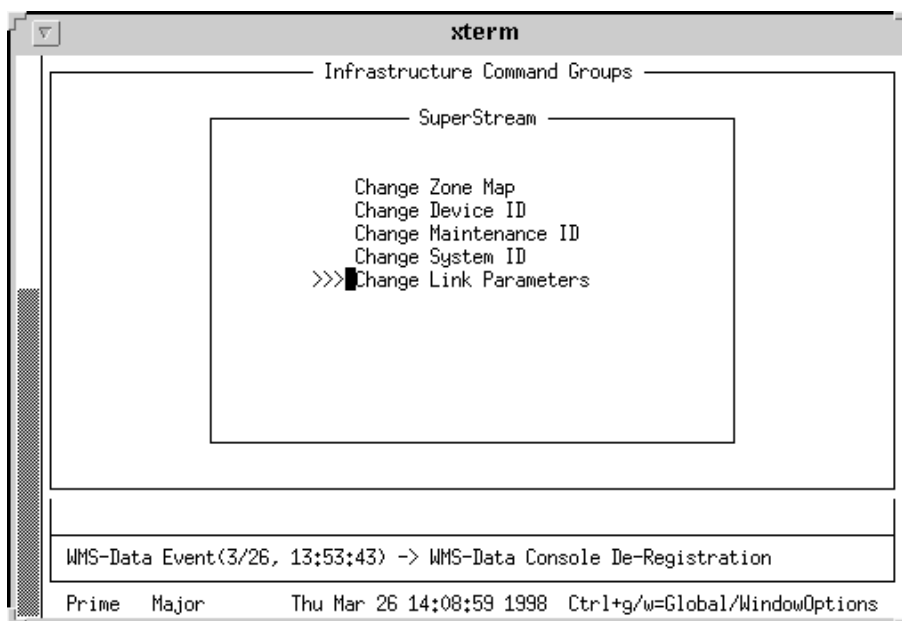

Figure 4-11: SuperStream Menu—Change Link Parameters
1. From the SuperStream menu, use the <tab> to position the cursor to the left of the listing Change Link Parameters and press: <Return> (see Figure 4-11).